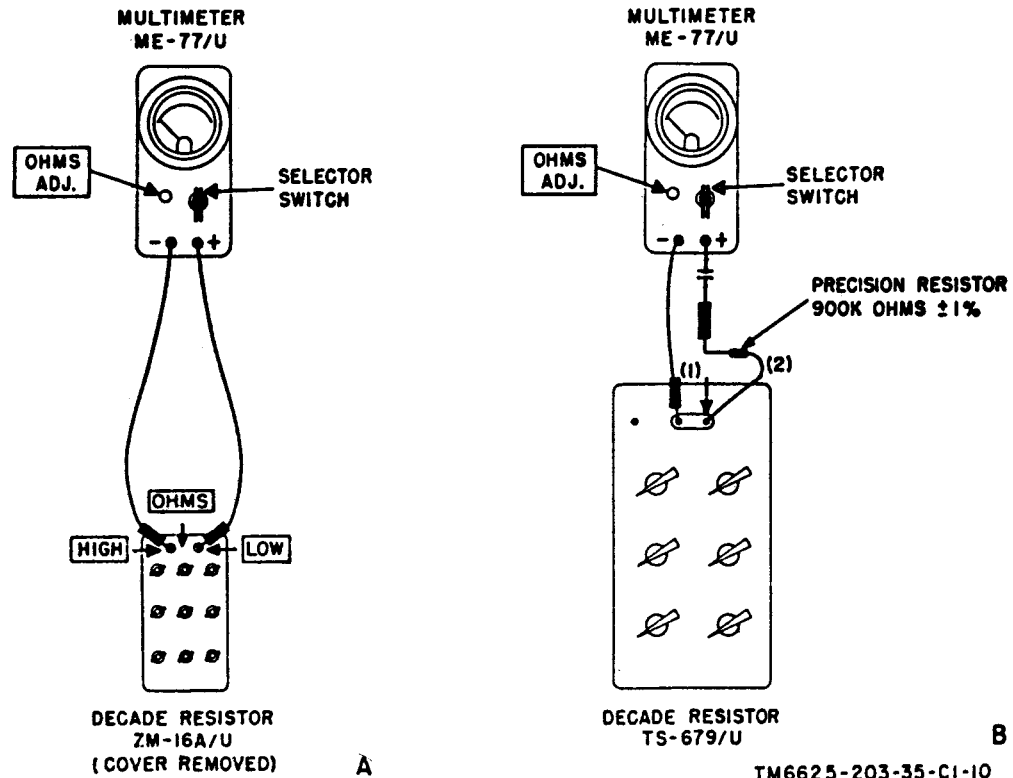

Figure 10. (Added) Ohmmeter circuit test.
(fig. 10)
b. Test Connections and Conditions. Connect the equipment as shown in A or B (1), figure 10, depending on which equipment is available.
- b. If Decade Resistor TS-679/U is used, reconnect the equipment as shown in B,(2) figure 10.